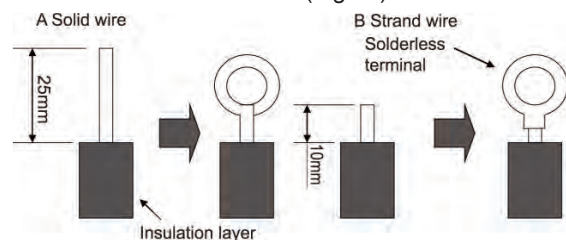

Fig.18
(1). For solid core wiring (Fig.18)
(2). For strand wiring (Fig.18)